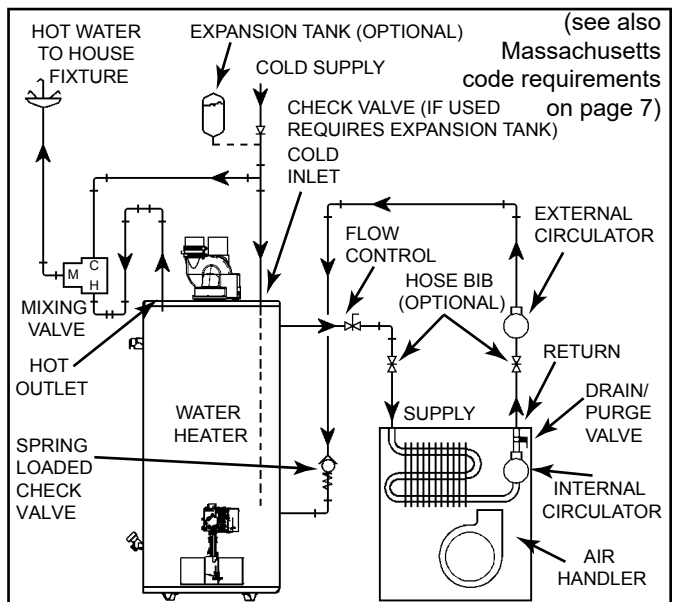
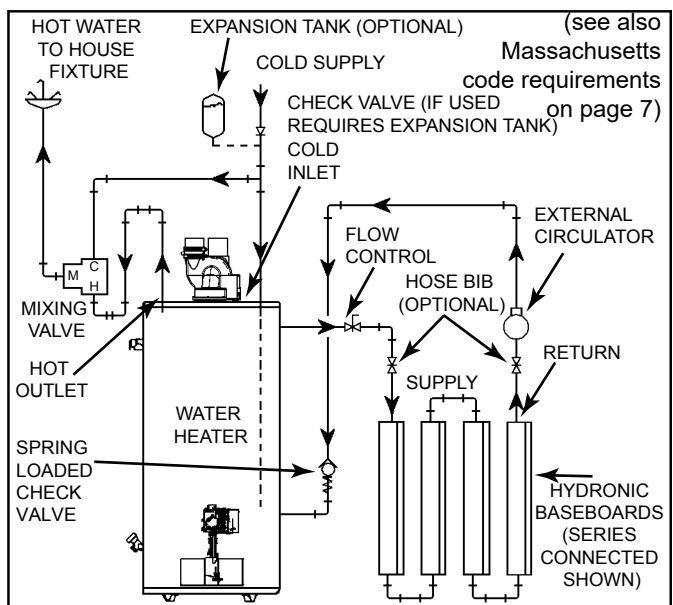

Figure 20.
Figure 21.
8. “Combo” Heating Systems require higher water temperatures than other applications. When the system is used to supply water for Combo Heating applications, a means, such as Thermostatic Mixing Valves (see Figure 8) at each point-of-use, must be installed to temper the water in order to reduce scald hazard potential (see Figure 20 and Figure 21).
- A. A fan coil/air handler (Figure 20).
- B. A hydronic baseboard (finned tube) loop/In floor heating (Figure 21).